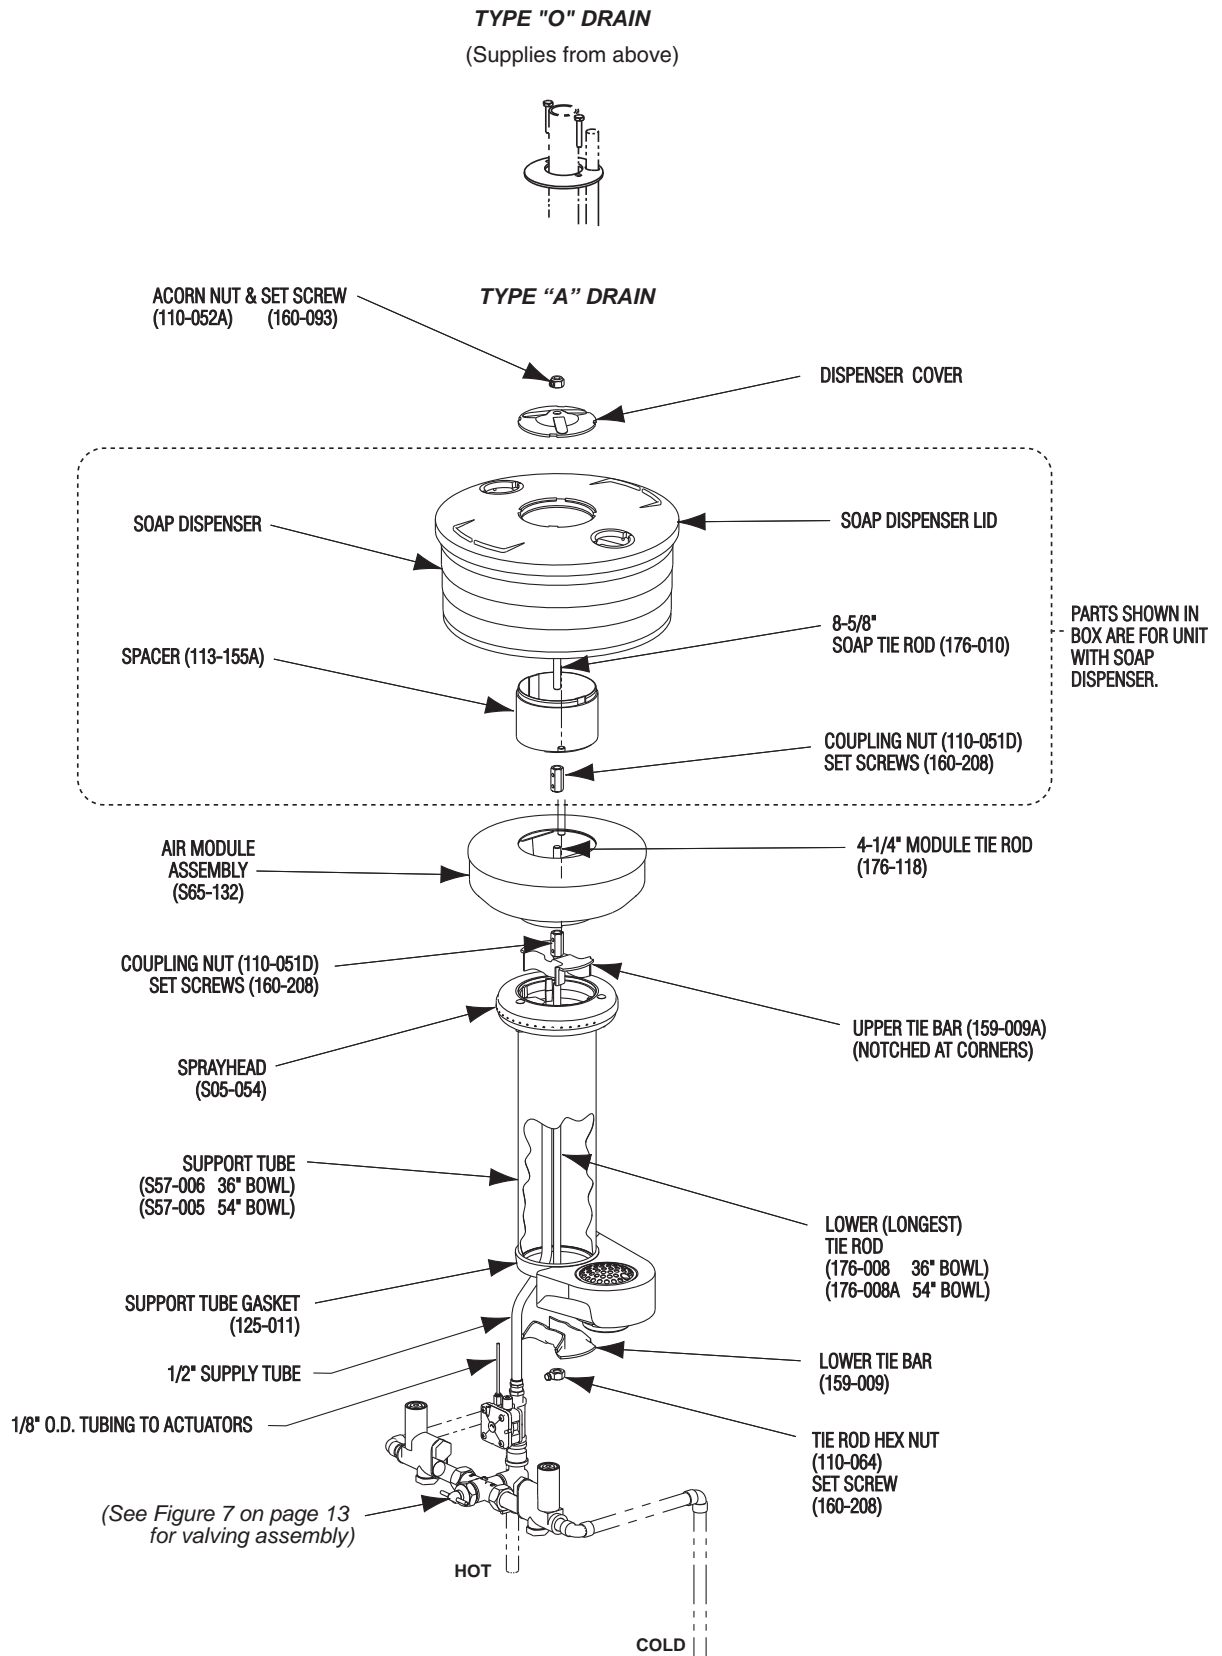

Figure 5
1. Install hemmed end (not sharp end) of support tube with gasket onto bowl as shown in Figure 5 on page 10.
3. Place sprayhead with 1/2" tubing onto support tube as shown in Figure 5 on page 10. Run tubing down through support tube.
4. Assemble the lower tie rod (the longer threaded rod), upper tie bar (notched at corners), lower tie bar, tie rod nut, and coupling nut, then attach the 4-1/4" tie rod to coupling nut as shown in Figure 5.
- 6a. **FOR UNITS WITH SOAP OPTION:** Install the spacer, soap dispenser and cover using the coupling nut, third tie rod (8-5/8" long) and second coupling nut as shown (see Figure 5). Secure with acorn nut and socket head set screw.